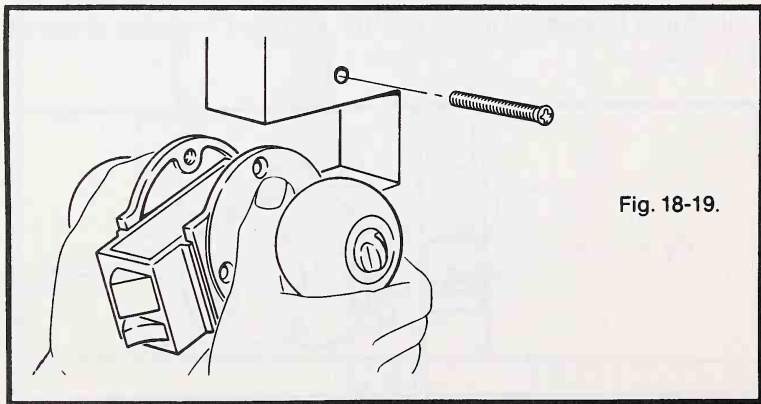

Fig. 18-19.
1. Remove the through-bolts on the inside of the door (Fig. 18-19).